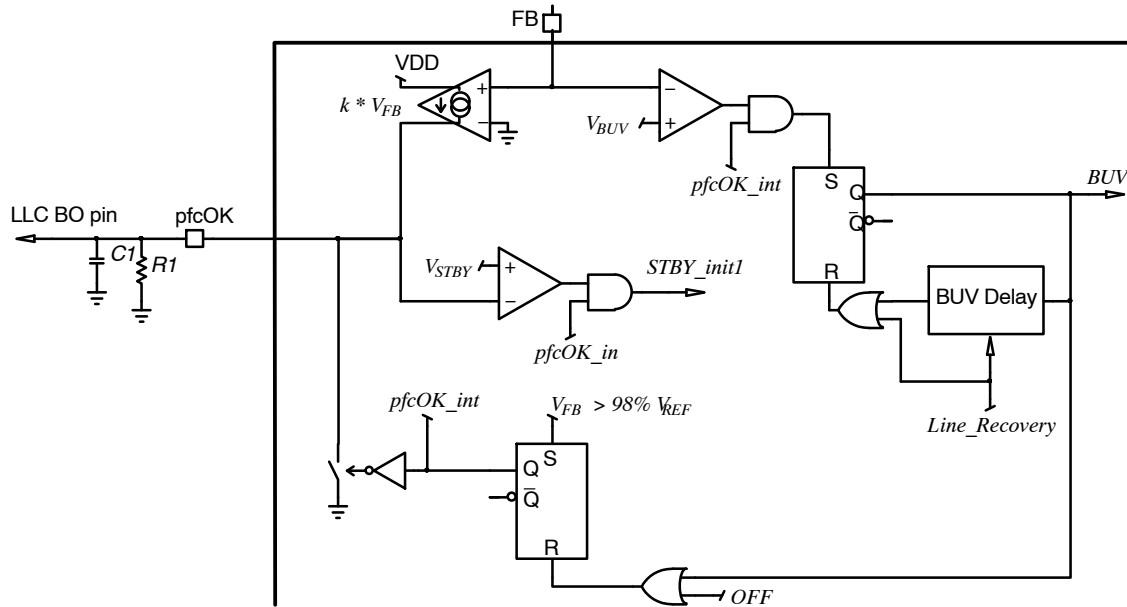

Figure 17. *pfcOK* Block
Practically, the *pfcOK* pin is grounded when the PFC stage enters operation and remains in low state until the output voltage has nearly reached its nominal level (practically when V_{FB} reaches 98% V_{REF}). At that moment, the *pfcOK* pin sources a current proportional to the feedback voltage ($k \cdot V_{FB}$). See Figure 17. Placing an external resistor between the *pfcOK* and GND pins, we obtain a voltage V_{pfcOK} which is proportional to the bulk voltage and can serve as a feedforward signal for the downstream converter. k typical value is 10 $\mu A/V$ so that the *pfcOK* pin typically sources 25 μA when the FB voltage is 2.5 V (regulation level).
The high voltage (HV) pin is a multi-functional pin, which in addition to the start-up current source, provides access to the brownout, line sag, line range detectors and X2 capacitor discharge. The brownout / line-sag detector detects too low line levels and the line range detector determines the presence of either 110 V or 220 V ac mains. Depending on the detected input voltage range, the NCP1618 internally adjusts device parameters to optimize the system performance. Line and neutral are diode “ORed” before connecting to the HV pin as shown in Figure 17. The diodes prevent the pin voltage from going below ground.
- Resets the BUV timer. It is because a long line-sag event is likely to cause a BUV detection. When a BUV fault is detected, no restart is possible until the BUV timer has elapsed. If a BUV fault is detected during a line-sag sequence, we want operation to be resumed as soon as the line recovers (see Figure 17).